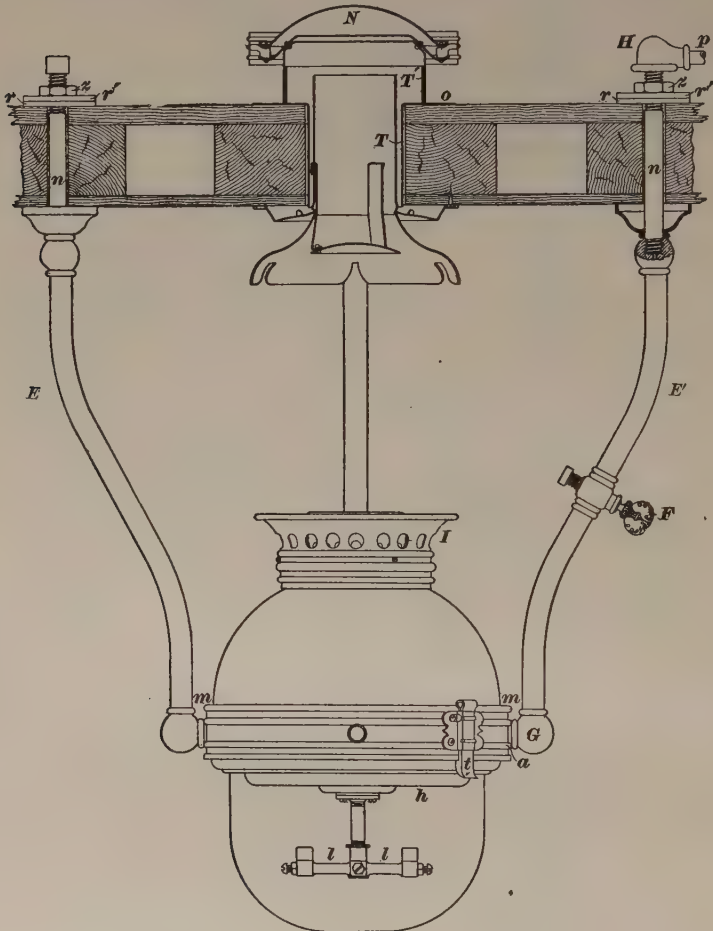

FIG. 12
roof of the car passes down one of the arms supporting the lamp (see *E'*, Fig. 12) and passes into the ring *G* at *a*, thence going up through tube *b* and down the pillar *c* and so on to the *cluster stem d*, *cluster ll*, and *burners e*. The *cup*
24. When about to put on the upper glass, or dome, of an arm lamp, first unscrew the crown *I* from the chimney of the lamp (see Fig. 12). After the dome is in place, put this crown on again, screwing it up snugly against the dome, so as to hold the latter on tightly. Untwist a ring of asbestos wick and put it around the bottom edge of the dome at *m*, between the glass and the iron ring (see also Fig. 10); this makes the joint around the bottom of the dome air-tight. There is no occasion to solder the ventilators to the roof if the thimbles are made to fit the ventilators closely.